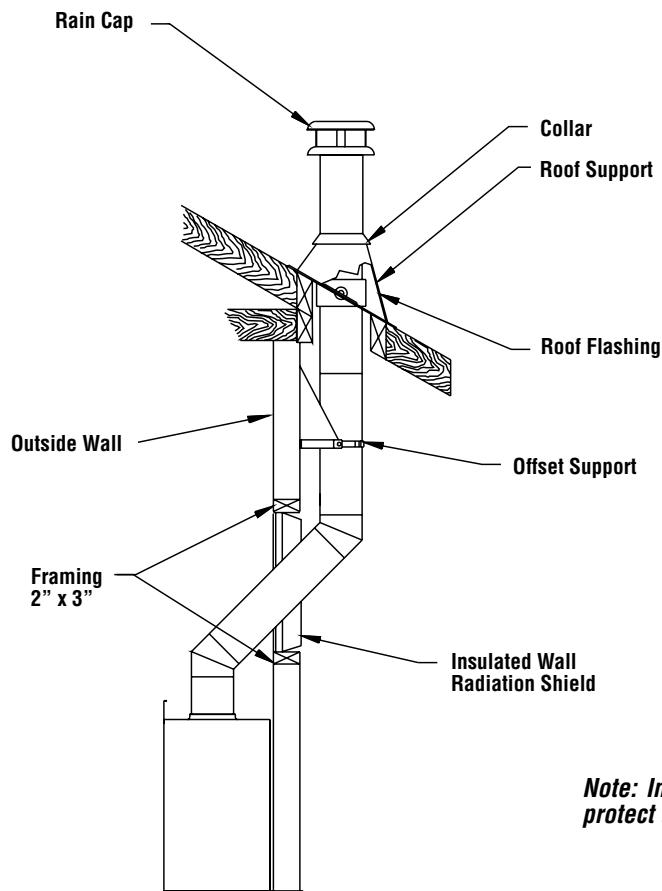

Figure 29
1. Install the first elbow; turn it in the required direction. Fasten it to the chimney with the three (3) 1/2" (12 mm) metal screws provided with the elbow.
2. Install the necessary chimney lengths to achieve the required offset. Lock the chimney lengths together: it is recommended to use three (3) 1/2" (12 mm) screws. If the offset length is made of two (2) chimney lengths or more, use an offset support halfway up the offset. If penetrating a wall, install a wall radiation shield (see **Figures 29 & 30**).
3. Use another elbow to turn the chimney vertically. Secure the elbow, using three (3) 1/2" (12 mm) screws (provided with the elbow).